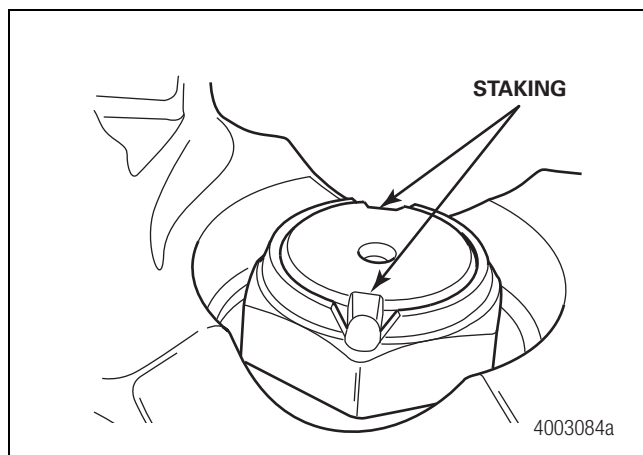

Figure 4.35
5. After you tighten the pinion nut, use a small chisel and hammer to stake the pinion nut to the shaft in two places. Figure 4.35.